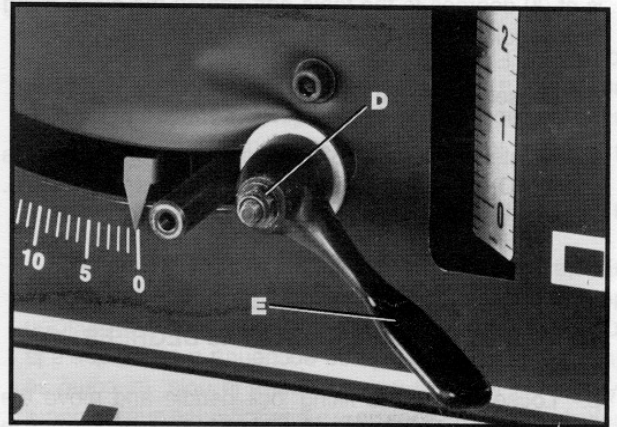

Fig. 29
2. Remove locknut (D) Fig. 29, and lock handle (E).